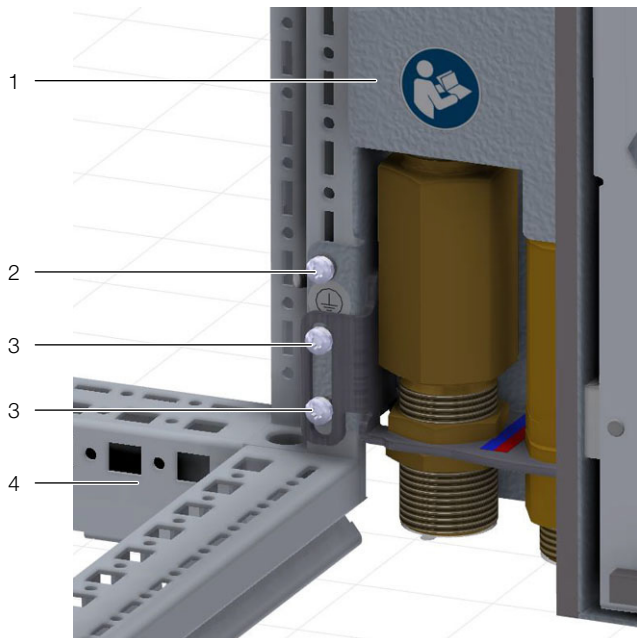

Fig. 17: Mounting the LCP Hybrid – Inside bottom
- Screw the potential equalisation screw and contact washer included with the supply into the point marked with an earth symbol above the bottom two assembly screws, as far as they will go (fig. 17, item 2).